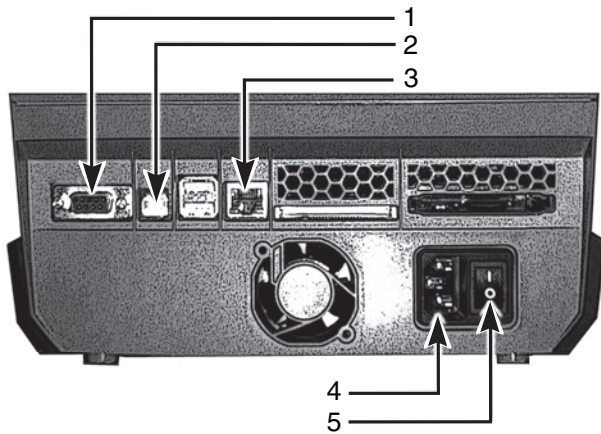

Figure 2, Interfaces and Connectors
5. Turn on the power switch on the back of the printer (**Figure 2, 5**). The printer will perform a self test and then go into Ready mode.
The printer has an RS-232 port (**Figure 2, 1**), a USB port (**Figure 2, 2**) and an Ethernet port (**Figure 2, 3**).
2. Connect the printer to the computer using the supplied USB cable. The USB cable connects to the printer at the USB port (**Figure 2, 2**) and to a USB port on the computer.
2. Connect the printer to the computer using an RS-232 cable (not provided). The RS-232 cable connects to the printer at the port (**Figure 2, 1**) and to the computer.
2. Connect the printer to the computer using an Ethernet cable (not provided). The Ethernet cable connects to the printer at the Ethernet port (**Figure 2, 3**) and to an Ethernet port on the computer or Local Area Network (LAN).